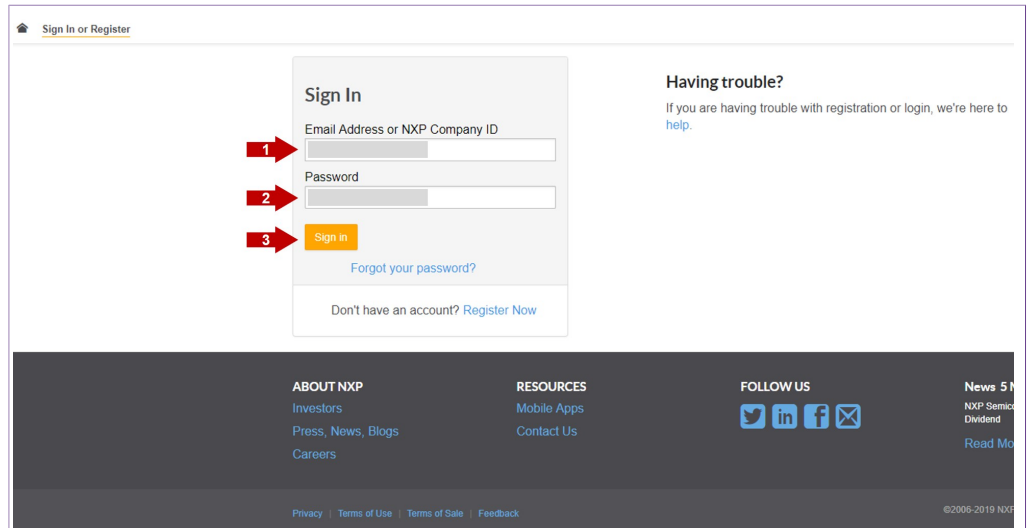

Figure 45. Sign-in in NXP website
3. If you already have an account, you can directly type your (1) email address, (2) password and (3) click sign-in button as shown in Figure 45: